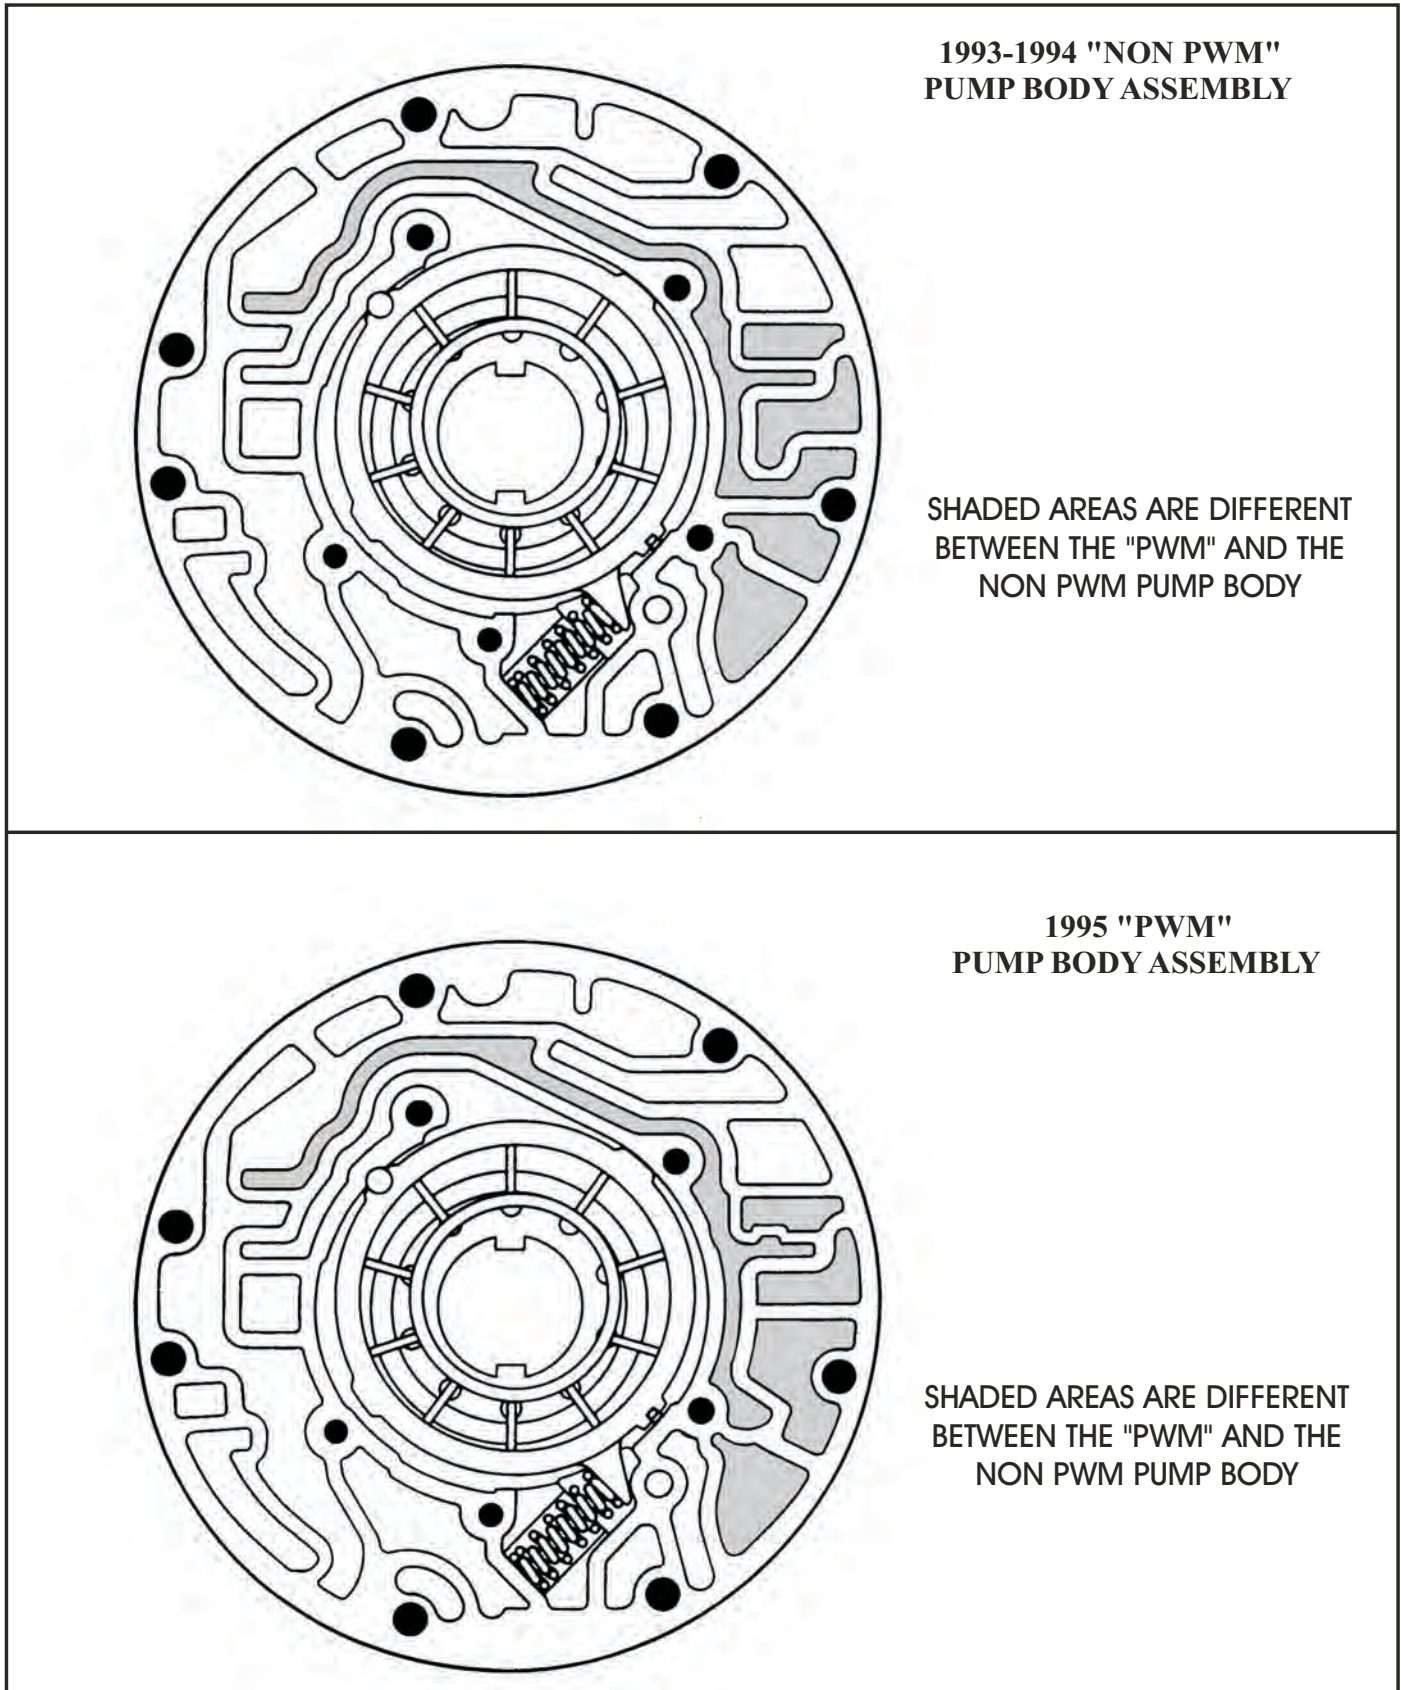
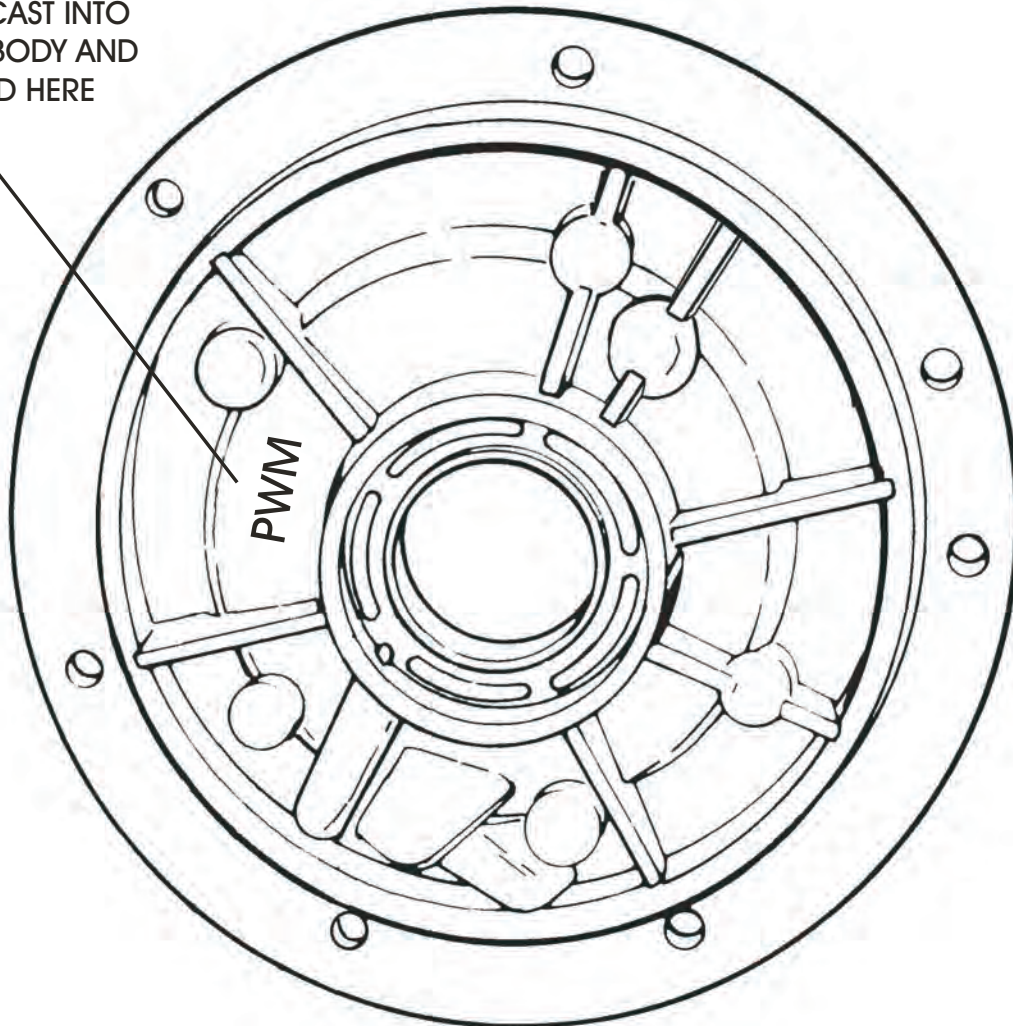

Figure 3
Figure 4
- (3) OIL PUMP BODY - There were changes in the worm track configuration on the new design pump body to accommodate the added TCC PWM solenoid. The pump body can be easily identified with "PWM" cast into the pump body, in the location shown in Figure 4. Refer to Figure 3 for the differences in the worm track area, which we have shaded for easy reference.